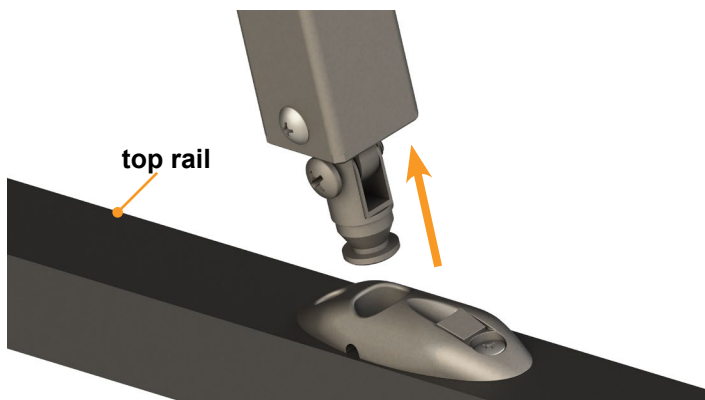

Fig.19
14. Remove the swivel locking stud from the locking plate (Fig.19), then insert the mounting screw in the rear hole of the locking plate to attach it to the top rail (Fig.20A).
1. Slide and hold the hinge assembly's locking button down, then pull the swivel barrel out of the locking plate. See figure 19.